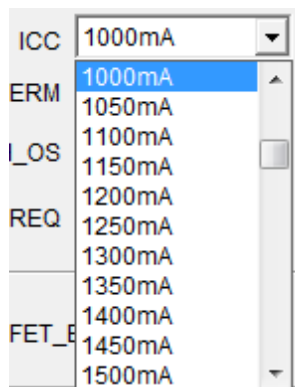

Figure 8: Fast Charge Current Configuration
6. Set the fast charge current (see Figure 8).